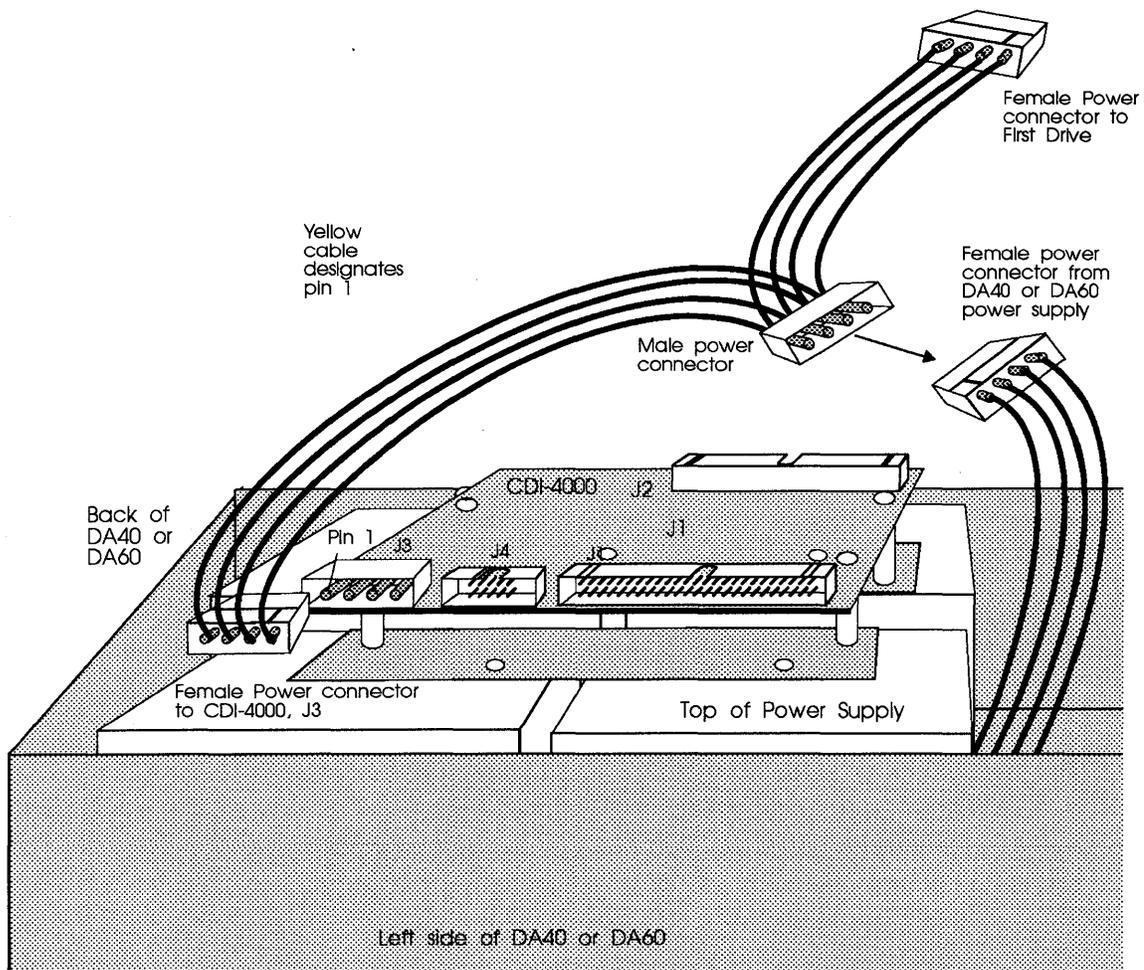

Figure 6-7: Power connection
- c Connect the other male power connector to the first disk drive; see Figure 6-7.